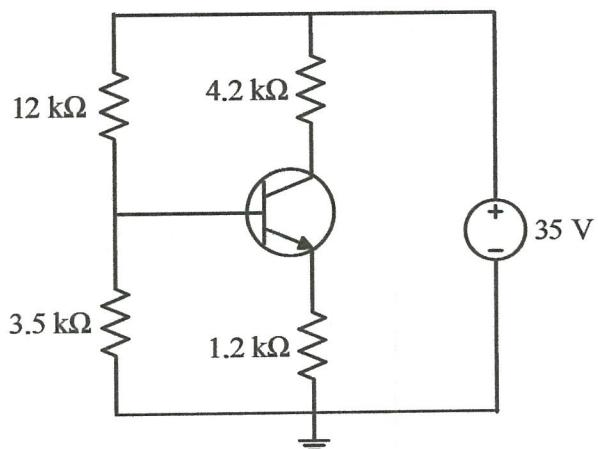

Figure Q3(d)
- (b) A transistor with equal base and collector supplies is shown in **Figure Q3(b)**. Analyze the collector-emitter voltage in this circuit and the transistor power. (7 marks)
- (c) Determine the collector current at the saturation point and draw the load line for **Figure Q3(c)**. Analyze the collector-emitter voltage at the cutoff point. What is the voltage between the collector and ground if the current gain is 250? (8 marks)
- (d) Determine the Q point for circuit in **Figure Q3(d)**. The power supply has a tolerance of ± 10 percent. Analyze the lowest and highest possible value of Q point. (8 marks)
COURSE CODE : BNR 20503**Figure Q1(e)****Figure Q3(b)****Figure Q3(c)****TERBUKA**